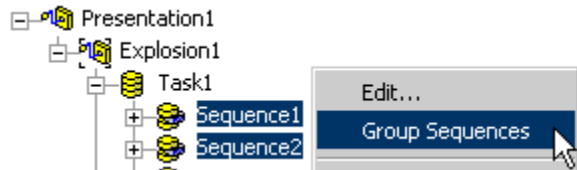

Figure 13: Grouping sequences.
4. Right-click and select Group Sequences from the pop-up menu (see Figure 13). Sequence2 becomes part of Sequence1 and later sequences are renumbered.